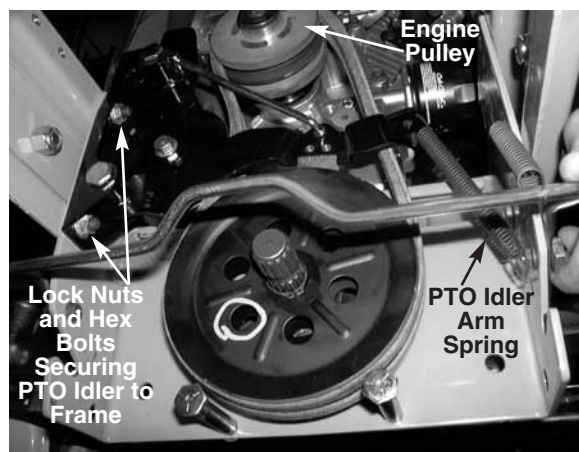

FIGURE 10.
22. Remove the PTO idler arm extension spring. See figure 10.
23. Remove both of the hex bolts and flanged lock nuts securing the PTO idler assembly to the frame using a 9/16 socket and a 9/16 wrench. See figure 10.